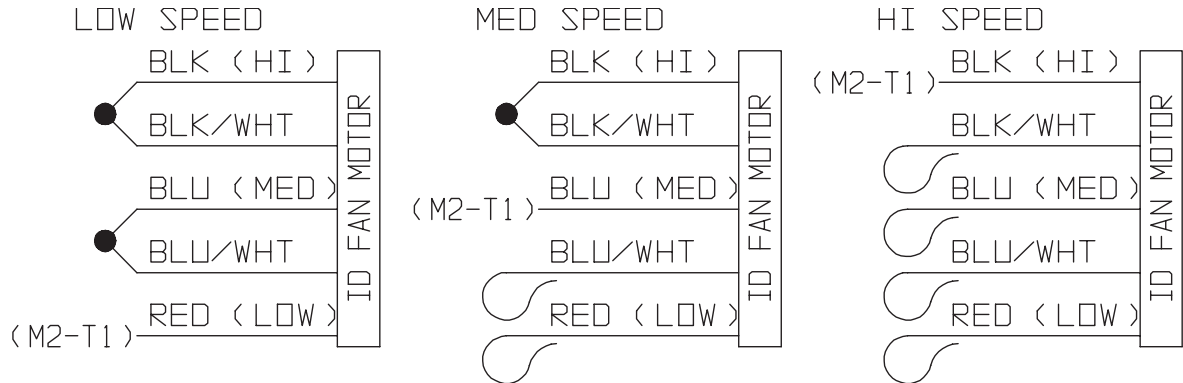

FIGURE 23 - WIRING DIAGRAM DETAIL B (460 & 575-3-60 POWER SUPPLY)¹
4. Unit factory wired for low or medium speed indoor blower operation to change motor speed connect speed tap wires from indoor blower motor per Detail B (Figure 23) tape unused speed tap wires to prevent shorting and secure near M2 contactor.